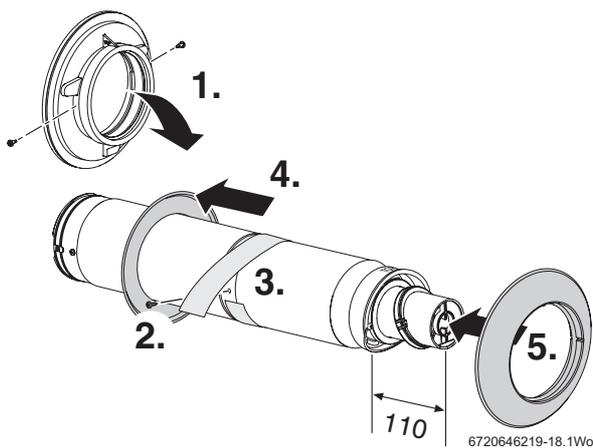

Fig. 20 Preparing the telescopic flue
1. Referring to figure 20, remove and retain the screws securing the telescopic flue to the connector. Disconnect the flue from the connector and discard the connector.